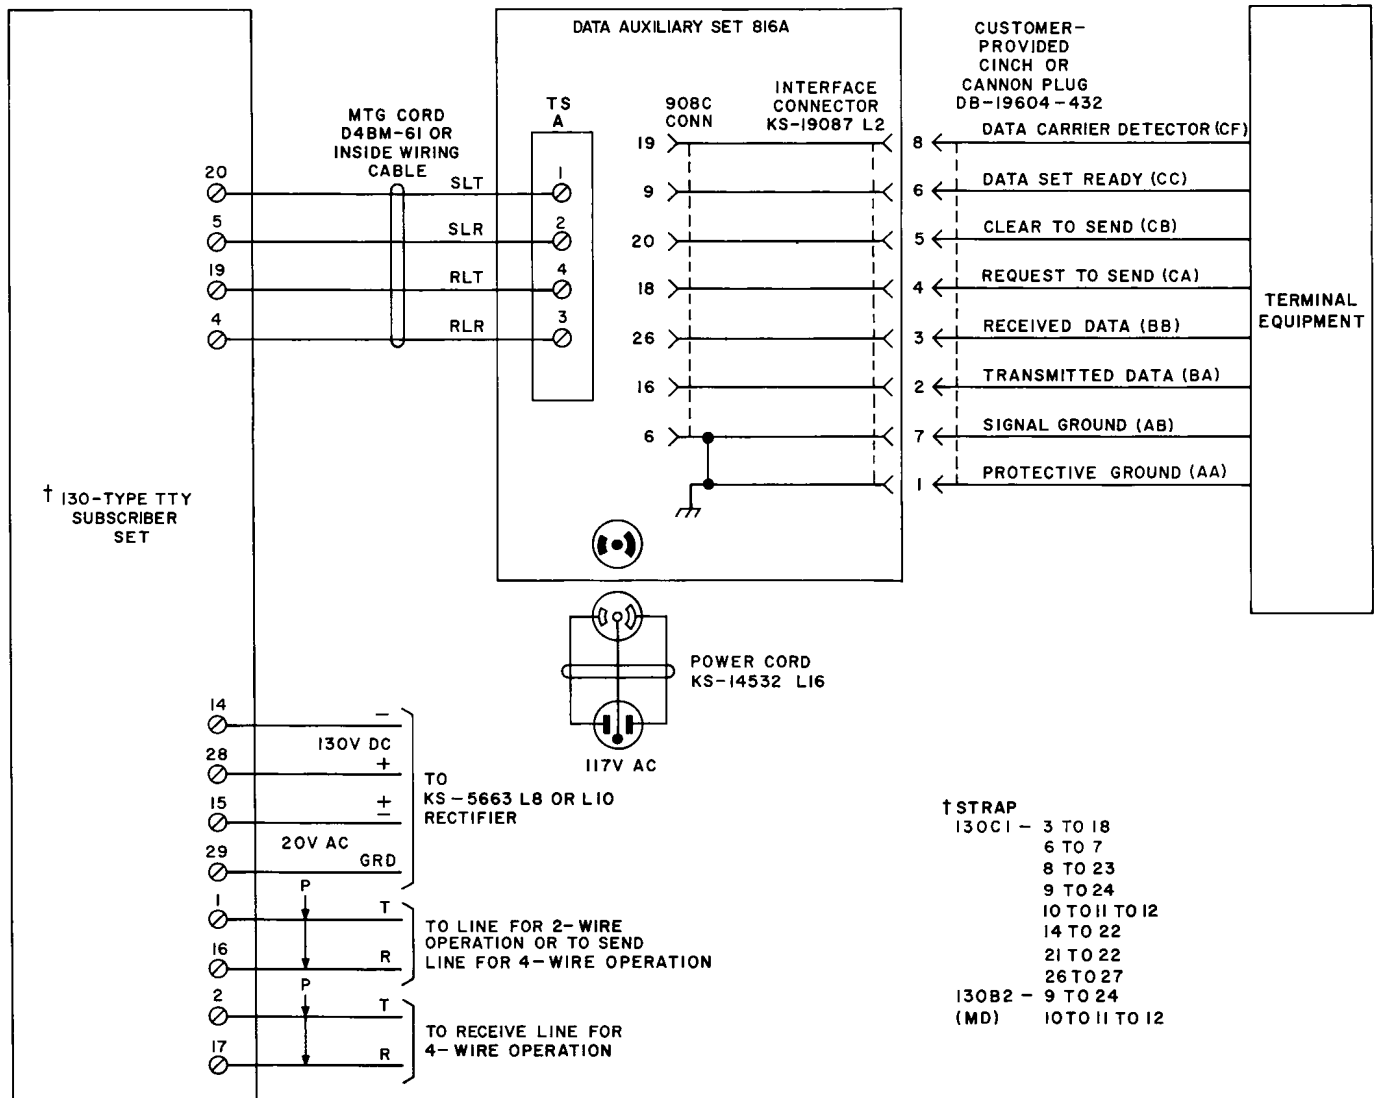

Fig. 2—Connections, Single Unit Installation Data Auxiliary Set 816A
2.04 Connections required for a 130-type Subscriber Set, used with a Data Auxiliary Set (DAS) 816A to provide an Electronic Industries Association interface for customer equipment, are shown in Fig. 2. For multiple installations requiring the use of a DAS 816B, connections are shown in the section entitled Data Auxiliary Set 816-Type—Installation and Connections (598-041-200).